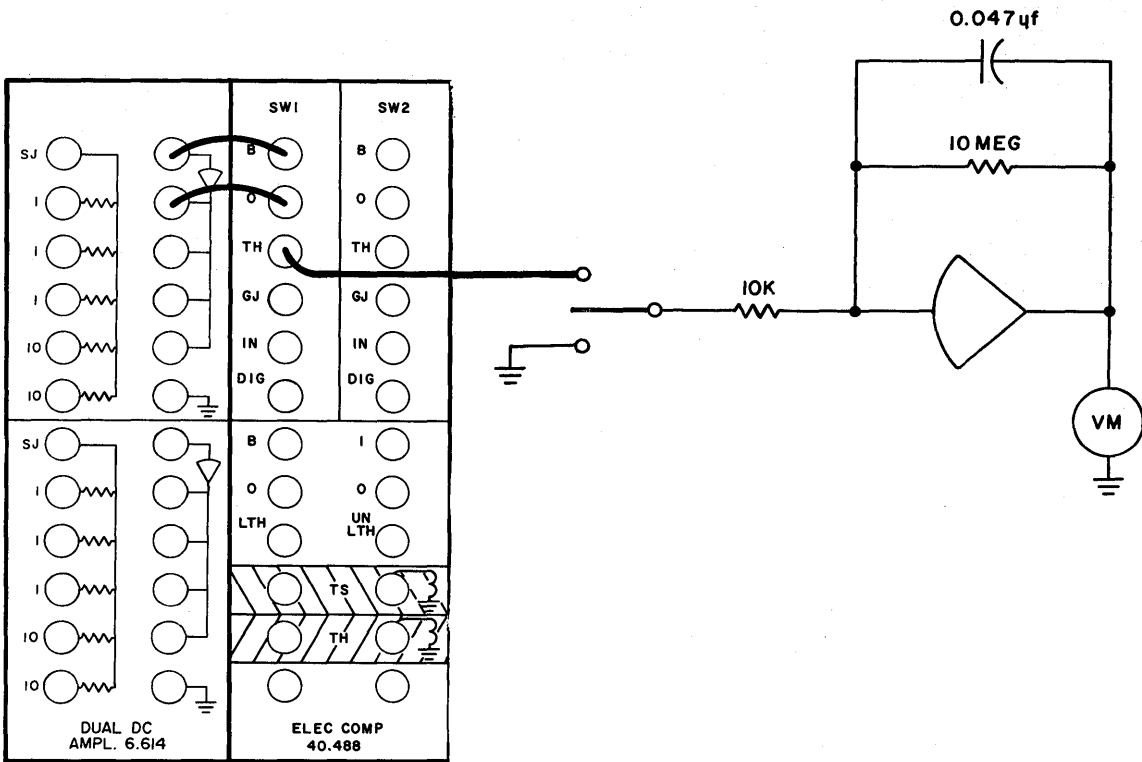

Figure 10. Gate Output Offset, Test Circuit
- (1) Connect the circuit shown in Figure 10 with the function switch set to the down position.
- (2) Set the voltmeter to the 1.0 volt range and balance it.
- (3) Set the function switch to the up position and adjust R27-1 for a minimum reading.
- (4) Repeat the procedure for SW2 adjusting R27-2.